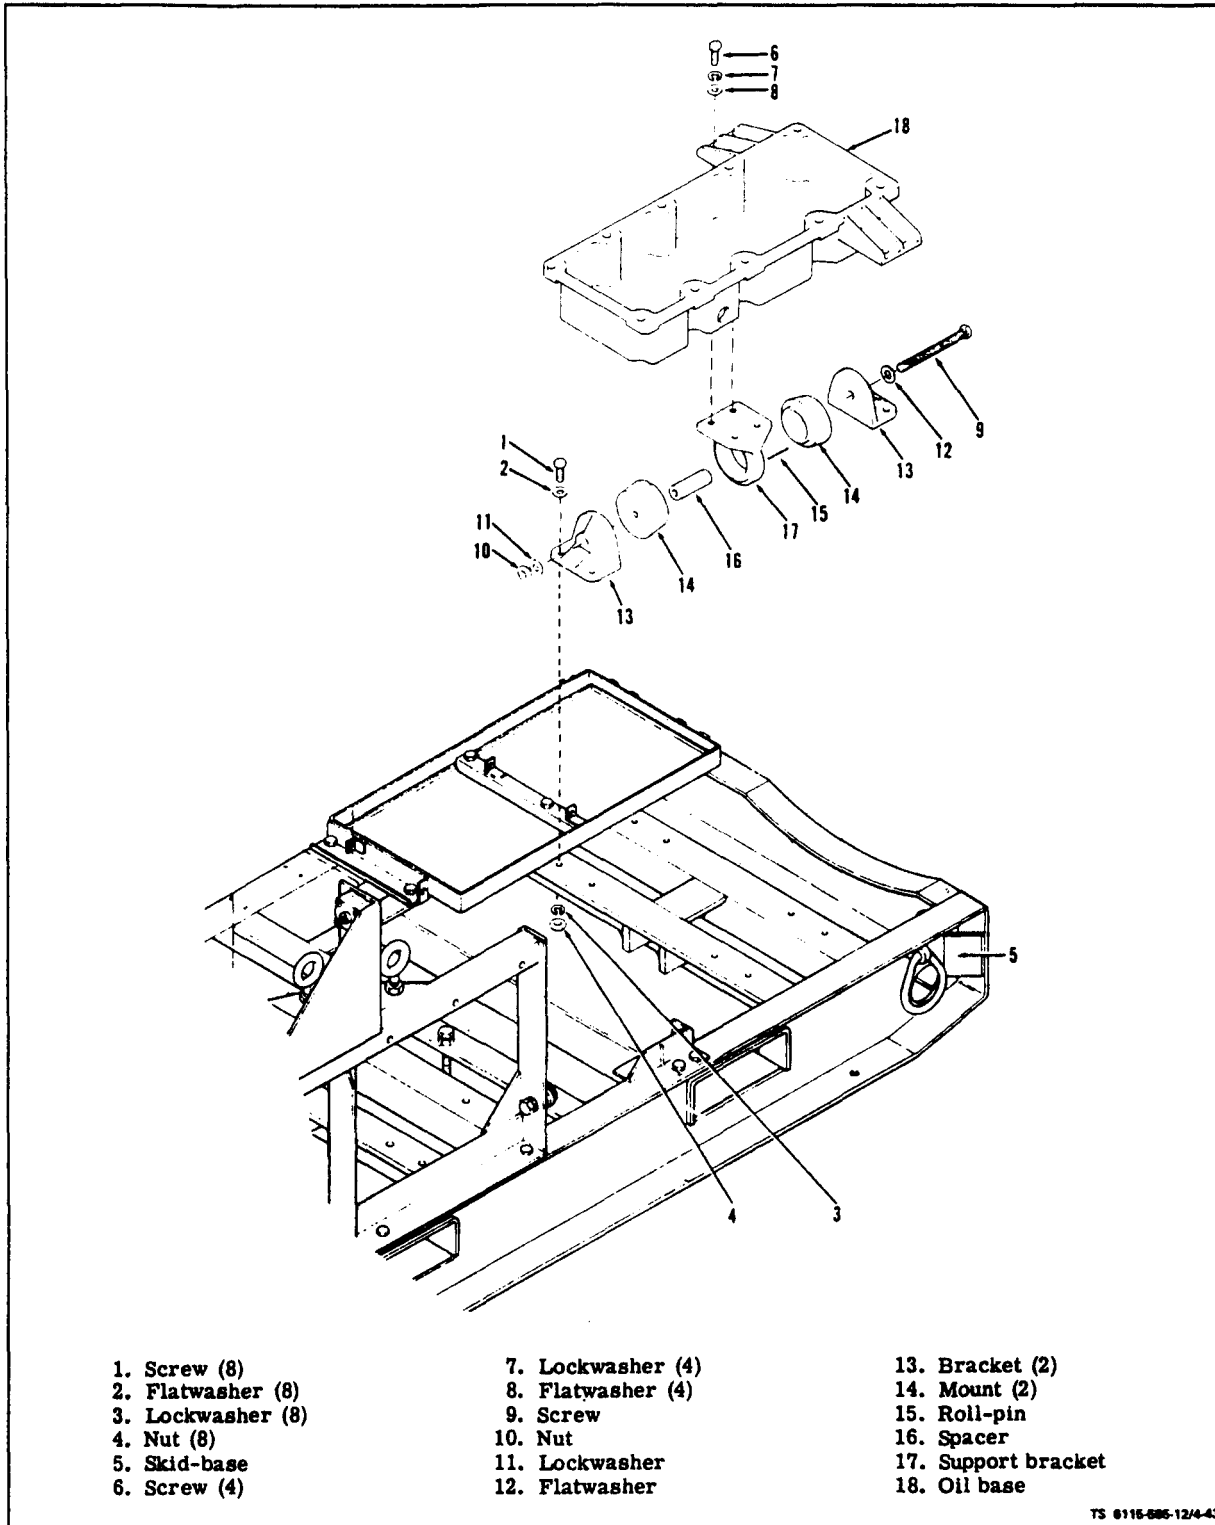

Figure 4-43. Engine Mounting Assembly
a. Inspect (see figure 4-43). On ASK equipped generators, remove ASK cover assembly (para. 5-3). Check to see that mounting nuts and bolts are tight. Check rubber mounts (14) for cracks and breaks.
b. Remove. Use engine lifting assembly to remove weight off of mounting assembly and remove screws (1), lockwasher (3), flatwasher (2) and nuts (4) that secure each mounting assembly to skid-base (5). Remove screws (6), lockwashers (7) and flatwashers (8) and remove mounts.